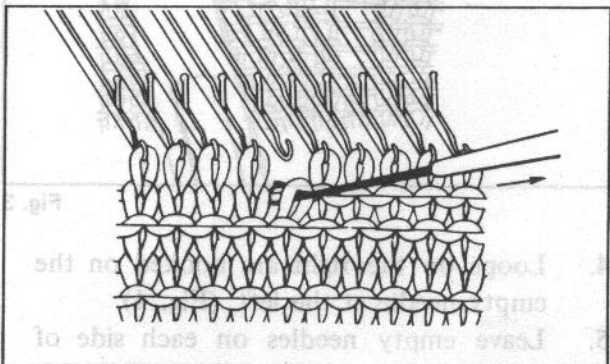

Fig. 4
6. By pulling the latch needle tool, pick up the first row strand and make a loop and hook it on the latch needle. (Fig. 4 & 5)